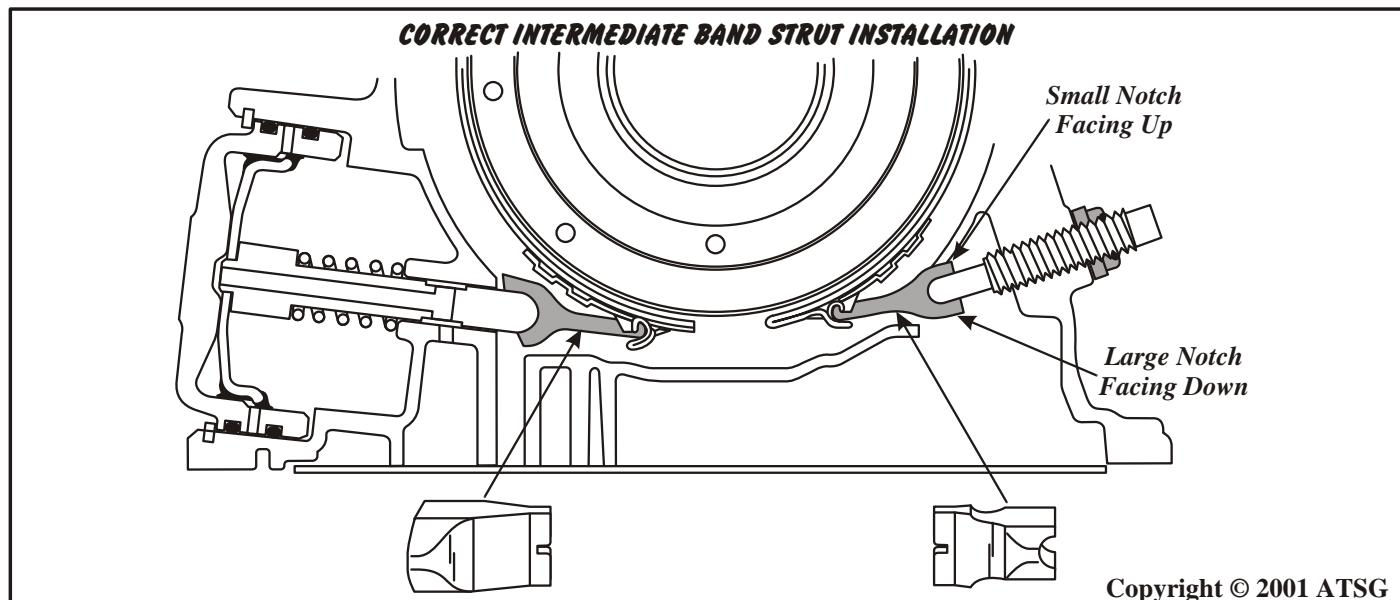

Figure 155
38. Install the intermediate band struts on each side of the band, *exactly* as shown in Figure 155.
- Caution:** *The anchor or adjustment side must have strut installed that is illustrated in Figure 155 and must be installed with the small notch facing the top of transmission.*
- The apply or servo side must also be installed, as shown in Figure 155.**